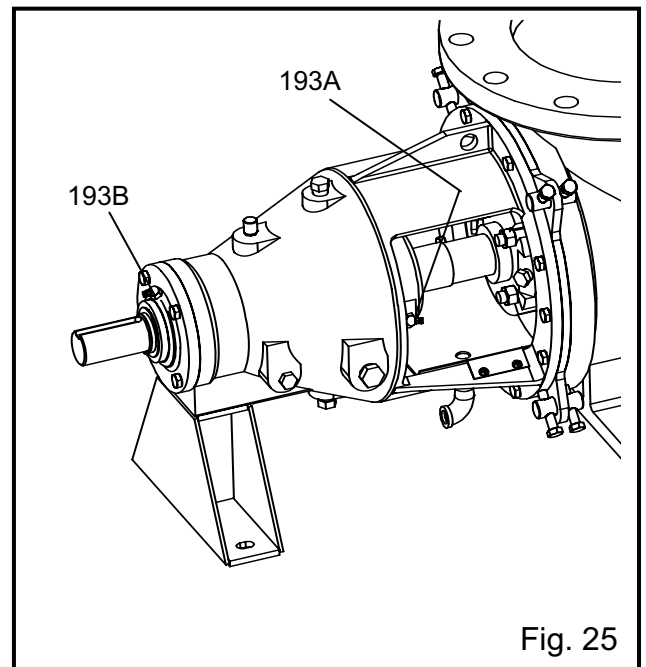

Fig. 25
2. Fill both grease cavities through the grease fittings (193A and 193B) found on the bearing housing (134C). Use recommended grease and fill until slight resistance is felt in the grease gun, see Fig. 25.